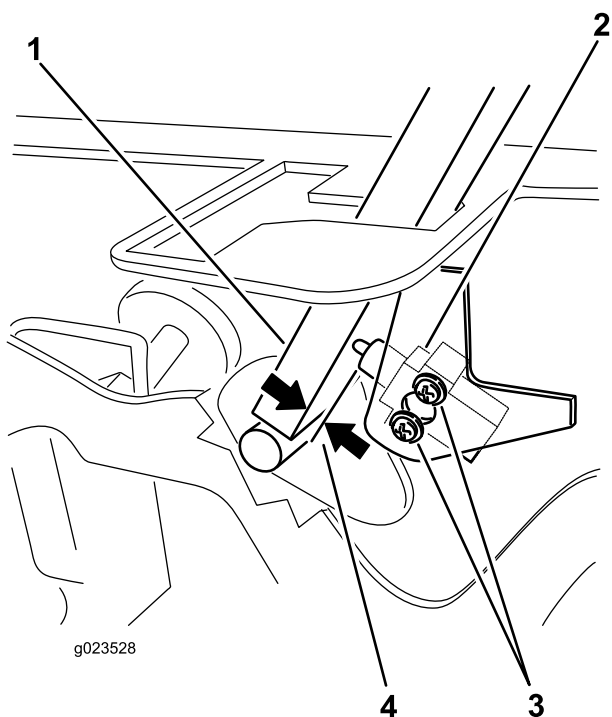

Figure 80
3. Loosen the 2 screws securing the interlock switch (Figure 80).
4. Holding the control lever against the frame, move the switch toward the lever until the distance between lever and switch body is 0.015 to 0.045 inch (0.4 to 1 mm) (Figure 80).